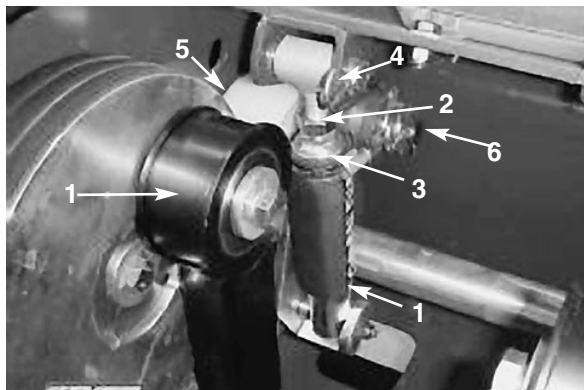

Figure 31
1. Loosen the jam nut securing the idler tube to the tensioner arm (Fig. 31).
spring tension is removed (Fig. 31).
3. Remove the hairpin cotter and idler pin securing the top of the spring assembly to the frame (Fig. 31).
4. Remove the hair pin cotter securing the idler pulley assembly to the idler shaft (Fig. 31). Remove the idler assembly from shaft.
5. Remove the screw, lock washer and flat washer securing top of tine arm to pulley (Fig. 31).